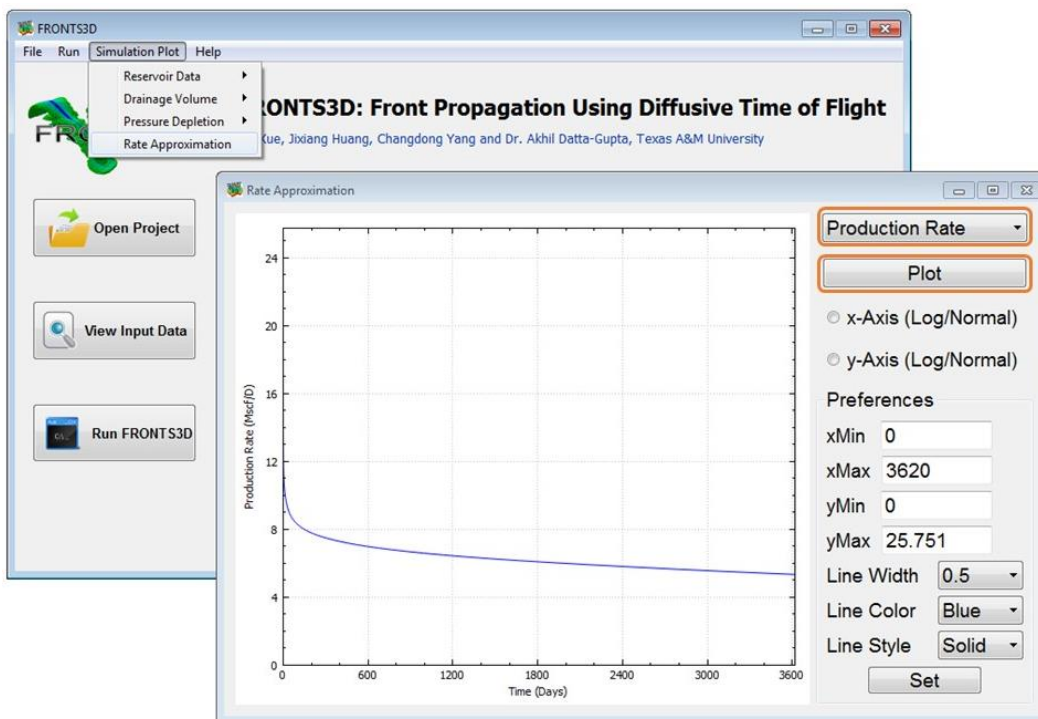

Figure 10. Select and View Rate Approximation
d. Click Simulation Plot → Rate Approximation, you can view production rate and cumulative production. (Figure 10). Note: You need to select the data you want to see and click the Plot button, then you can see the plot.